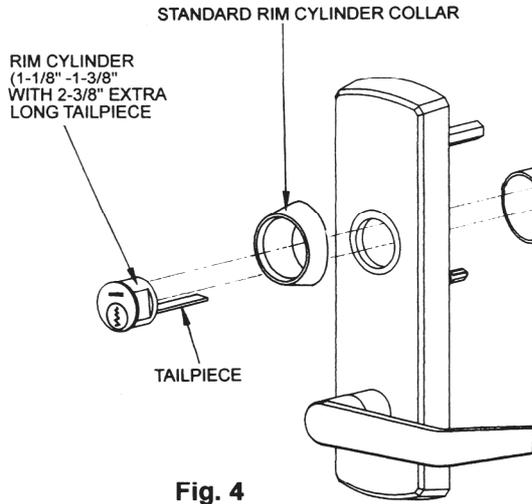

Fig. 4
3. Install rim cylinder into escutcheon and align tailpiece with tailpiece guide, and through the cylinder mounting cup. (See Fig. 4.)